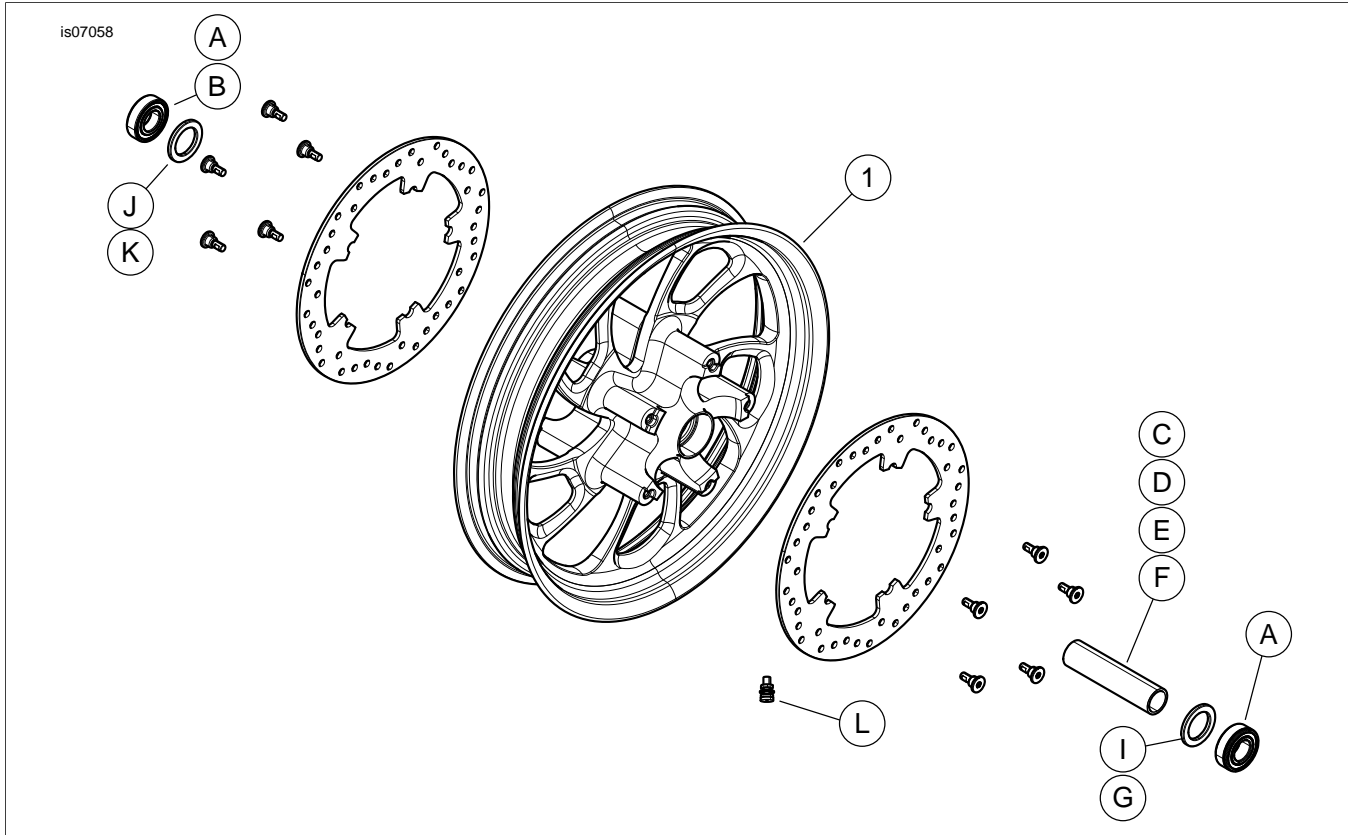

Figure 1. Service Parts: Blade Front Wheel Kits
2. See Figure 1. Install valve stem assembly (L) on wheel. Refer to TIRES in service manual.